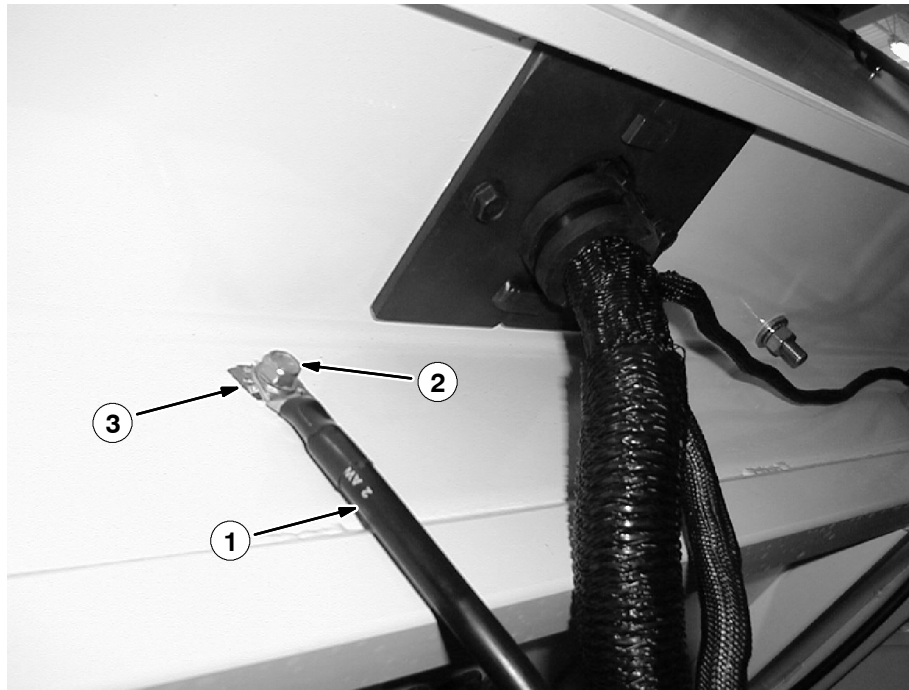

FIG. 3 - Predrilled Hole Location
8. Locate the predrilled hole at the rear of the cab, the predrilled hole is located just below and to the left of the main wire harness. (Refer to FIG. 3)
10. Install the wire assy (1) with the hex screw (2) and the lockwasher (3) to the cab.
NOTE: To ensure a good ground the lockwasher (3) should be between the unpainted surface of the cab and the wire assy cable end (1). (Refer to FIG. 3)
11. Secure the other end of the wire assy (1) to the negative post on the starter.